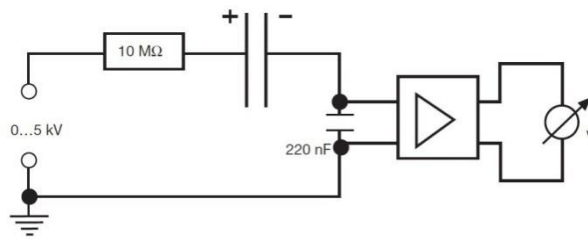

Fig. 4: Wiring diagram
2. According to figure 4, connect the positive terminal of the high voltage (upper connector) with the high resistance (10 M Ω) key. Then connect the black connector with 10 M Ω key.